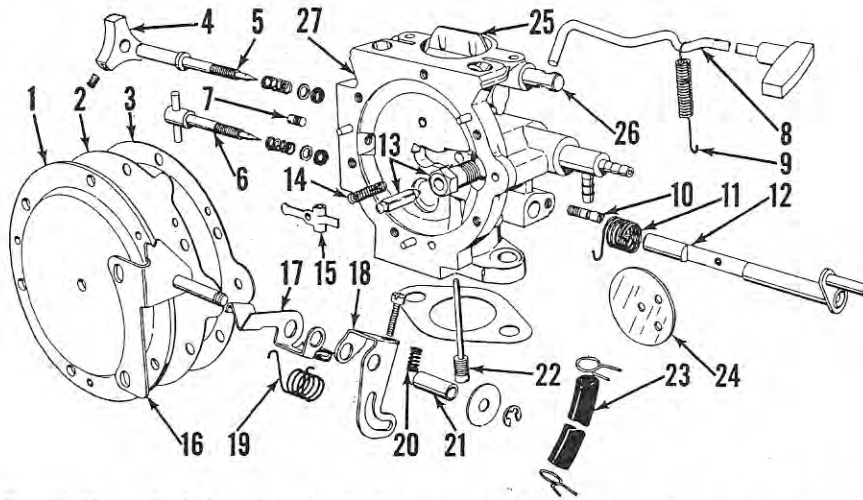

Fig. Mc45 — Exploded view of the Tillotson, diaphragm type carburetor used on some Fishing Scott motors.
CARBURETOR. Fishing Scott models use either a Tillotson model HC-8AX, diaphragm type carburetor as shown in Fig. Mc45, or a Marvel-Schebler model SUM float type carburetor shown in Fig. Mc47. Fleet Scott
Normal initial carburetor adjustments are 1 turn open for the high speed adjusting needle (5—Fig. Mc45) and 3/4-turn open for the slow speed adjusting needle (6). Final adjustments must be made under load when motor is warm.